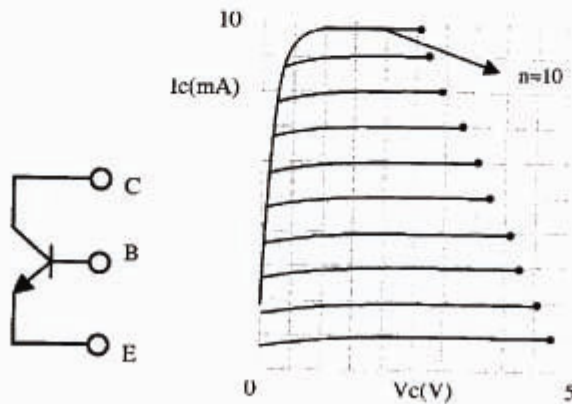

Fig. 3-1
3.2.1 Output curves of NPN 9013 transistor (see Fig. 3-1)